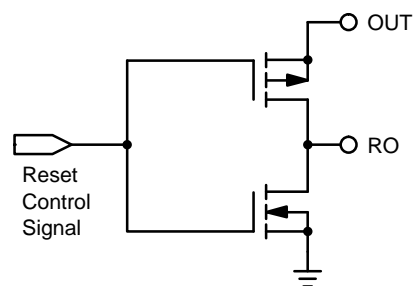

Figure 18. Reset Output Circuitry
The Reset Output (RO) circuitry includes an active internal pullup to the output (OUT) as shown in Figure 18. No external pullup is necessary.